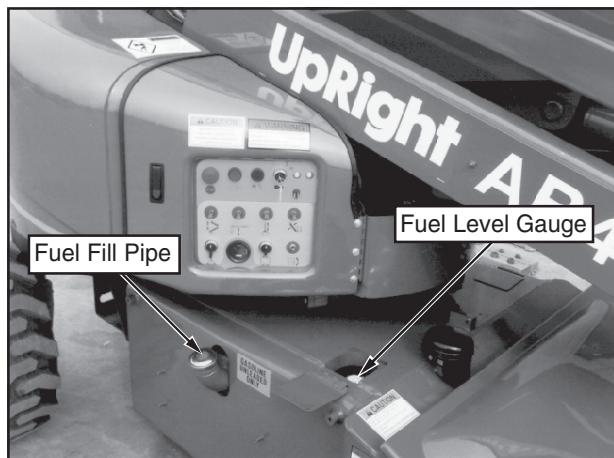

Figure 7: Fuel Fill Pipe and Level Gauge
1. Open fill pipe cap located on chassis left side (see figure 7).
3. Check fuel level by lifting flap located on top of chassis left side (see figure 7). Fuel tank full capacity is 941 [25 US gallons].
3. Lift flap located on top of chassis right side (see figure 7).